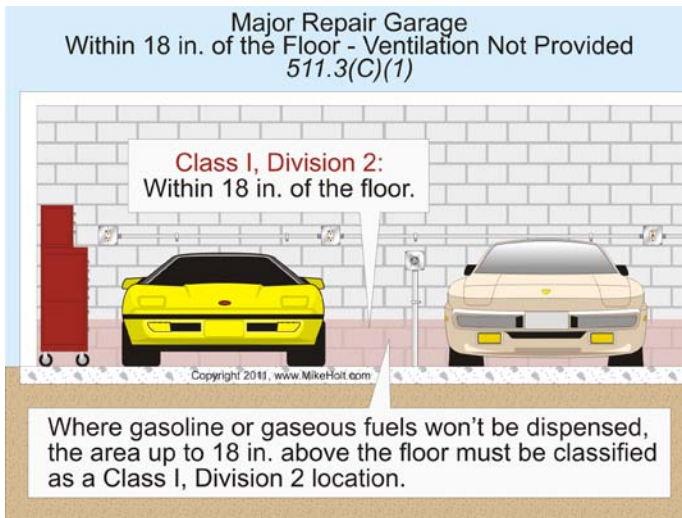

Figure 511-1
**(A) Parking Garages.** Parking or storage garages aren't classified.
**(B) Repair Garages, With Dispensing.** Major and minor repair garages that dispense motor fuels must have the dispensing functions classified in accordance with Table 514.3(B)(1).
**(C) Major Repair Garages.** If gasoline, or gaseous fuels, such as natural gas, hydrogen, or LPG, won't be dispensed, the classification rules in (1), (2), and (3) apply.
#### (1) Floor Areas. Figure 511-1